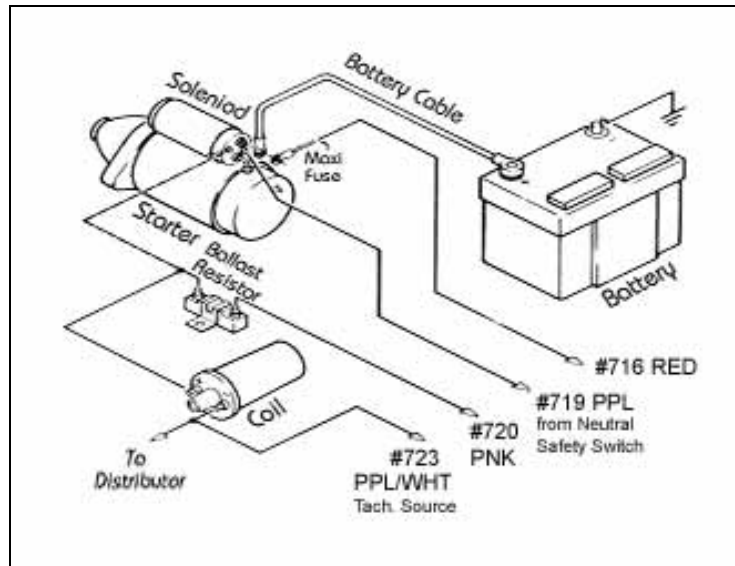

Figure 7-4 GM Ignition (Start-Run) System
7.4 GM Ignition (Start/Run) System. See Figure 7-4.
7.4.6 A 14-gauge wire connected from the Starter Solenoid Ignition (I) terminal to the ignition coil side of the Ballast Resistor is optional. This wire (the dashed line in **Figure 7-4**) serves as a ballast resistor BYPASS during engine starting. However, if the starter solenoid shorts out, which is not unusual, the engine will stop running and will not restart as long as this wire is connected. You may therefore choose to omit it. If you are not using a Ballast Resistor, leave the Starter Solenoid Ignition (I) terminal unconnected and do not install the bypass wire.
8.5 Toyota Ignition (Start/Run) System. See Figure 7-4.
- 8.5.6** A 14-gauge wire connected from the Starter Solenoid Ignition (I) terminal to the ignition coil side of the Ballast Resistor is optional. This wire (the dashed line in **Figure 7-4**) serves as a ballast resistor BYPASS during engine starting. However, if the starter solenoid shorts out, which is not unusual, the engine will stop running and will not restart as long as this wire is connected. You may therefore choose to omit it. If you are not using a Ballast Resistor, leave the Starter Solenoid Ignition (I) terminal unconnected and do not install the bypass wire.